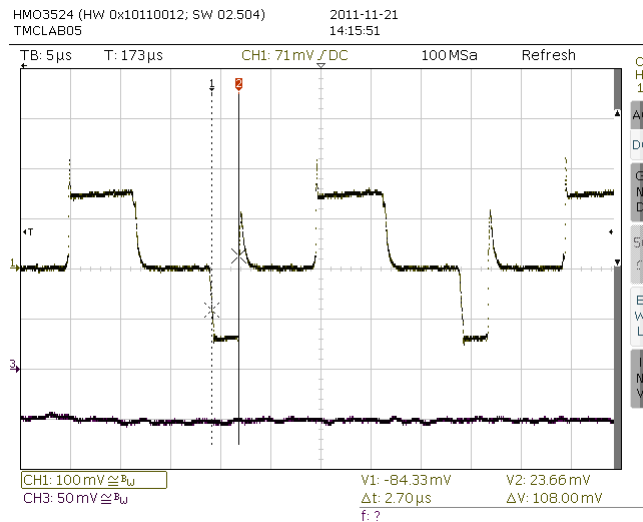

Figure 2.4 Measure the duration of the fast decay state (2.7μs): CH1: sense resistor voltage, CH3: coil current
1. Stop the motor at a position, where one coil current has a medium value, e.g. at a fullstep position. Attach the oscilloscope probe and measure sense resistor voltage to GND. Take a single shot of one or a few chopper cycles as shown in Figure 2.4 (showing a chopper operating at 40kHz).